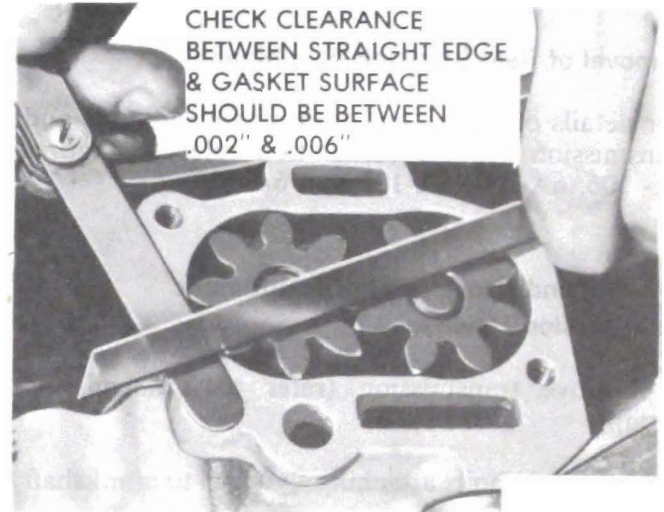

Figure 6A-103 - Checking Oil Pump End Clearance
3. Place a straight edge over the gears and measure the clearance between the straight edge and the gasket surface. See Figure 6A-103. Clearance should be between .0023" and .0058". If clearance is less than .0018" check timing chain cover gear pocket for evidence of wear.